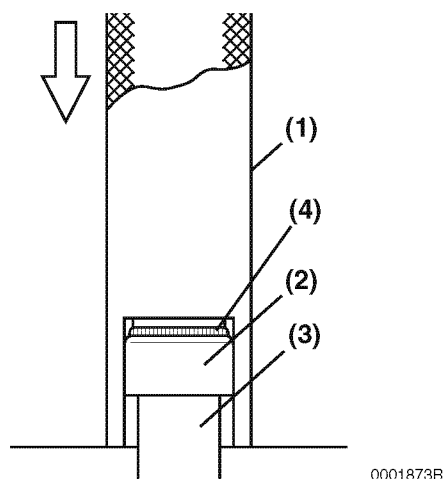

Figure 6-26
For 3TNM72 engines, the exhaust valve stem seals are different than the intake valve stem seals and can be identified by the color the seal spring (Figure 6-26, (4)). For 3TNM68 engines, all stem seals are the same. Ensure they are installed in the correct locations.
1. Oil the lip of the valve stem seal (Figure 6-26, (2)). Using the valve stem seal installation tool (Figure 6-26, (1)), install a new valve stem seal on each of the valve guides (Figure 6-26, (3)).